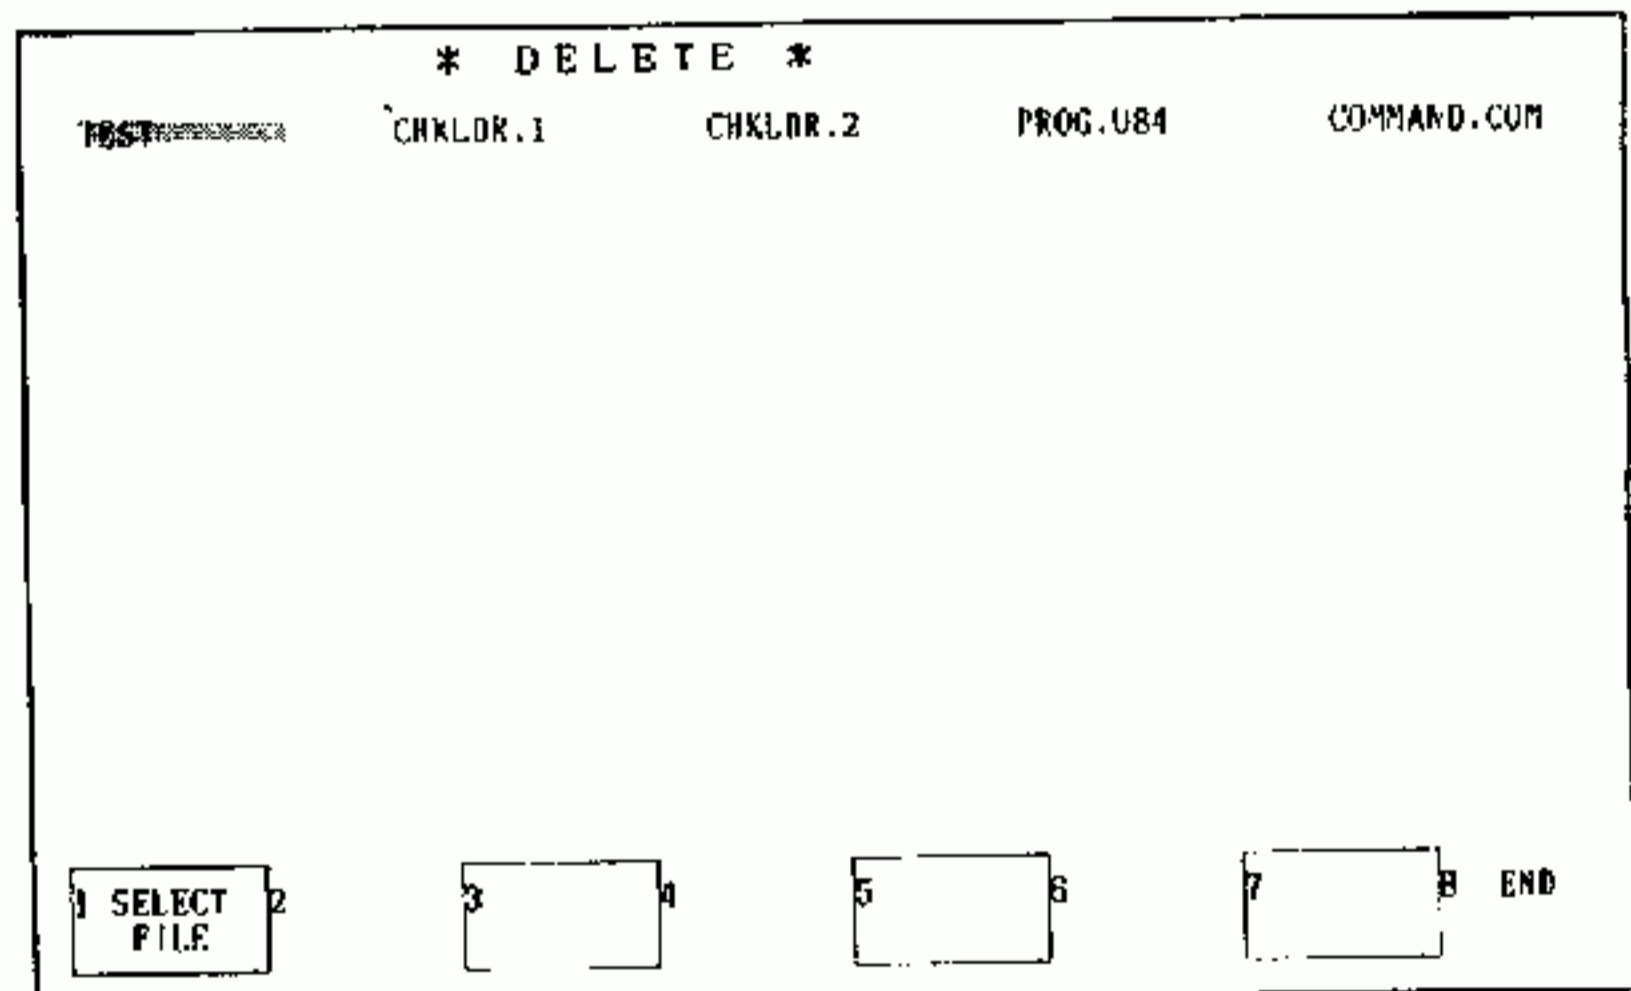
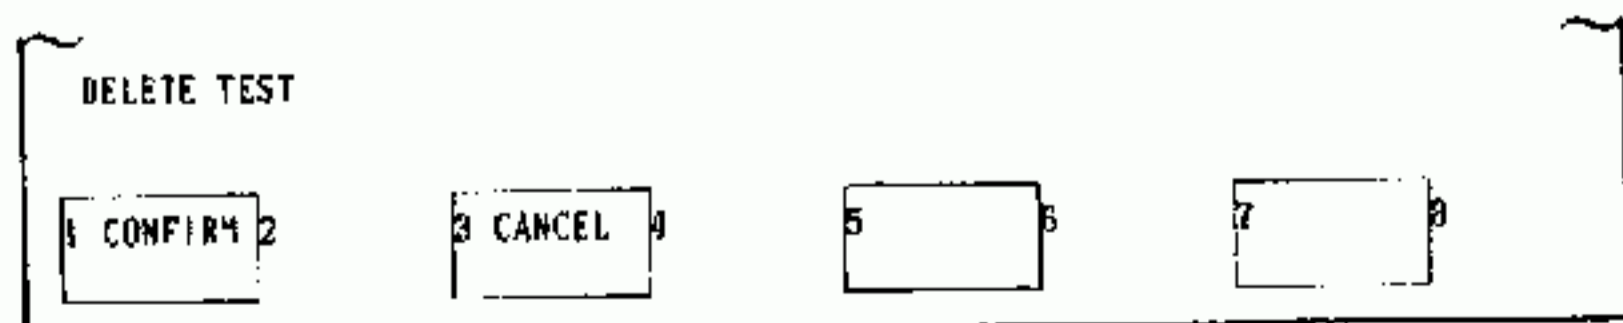

Fig. 5.2.164
Fig. 5.2.165
1. Depressing "CANCEL" key (Fig. 5.2.165) returns to the display shown in Fig. 5.2.164